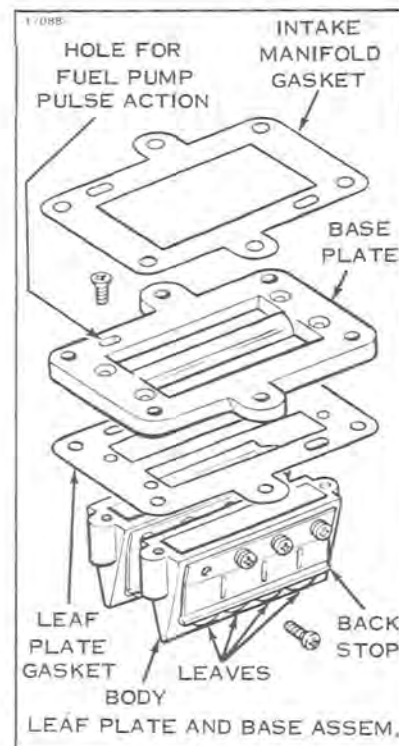

Figure 6-9
- Inspect the leaf valve assembly and disassemble if necessary (see Figure 6-9). Special caution is necessary in disassembling the leaf valve assembly. DO NOT damage or interchange the leaves.
- Secure leaf plate assemblies to base, using a new leaf plate gasket. Apply OMC Gasket Sealing Compound #317201. Align leaf plate and base assembly on crankcase. Install intake manifold on crankcase using a new intake manifold gasket. Be certain that elongated hole in base plate aligns with passage in intake manifold. Obstruction of this passage will prevent fuel pump operation via the pulse line. Fasten with screws and lockwashers. See Figure 6-9.